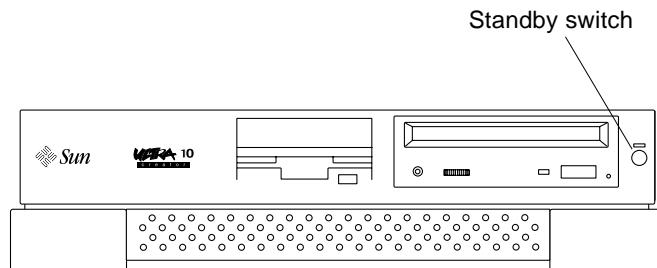
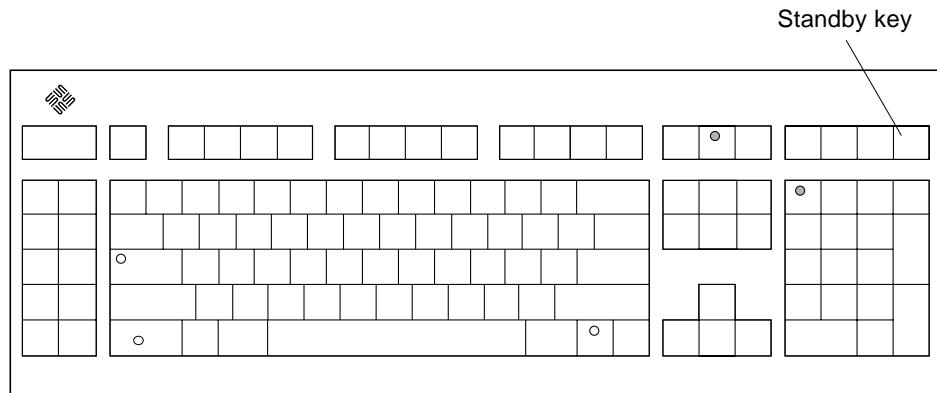

FIGURE 1 System Unit Standby Switch (Ultra 5)
FIGURE 2 Sun Type-5 Keyboard
- b. Press the system unit standby switch (FIGURE 1) or press the Sun Type-5 keyboard standby key (FIGURE 2).
e. Press the standby switch (FIGURE 1) or press the Sun Type-5 keyboard standby key (FIGURE 2).